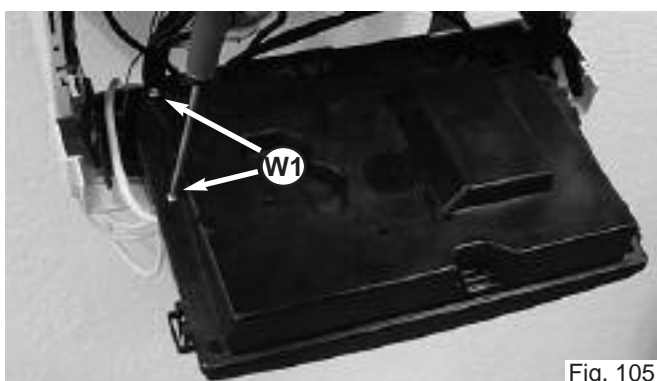

Fig. 105
2. Remove the two screws **W1** from the electrical box (see Fig. 105);